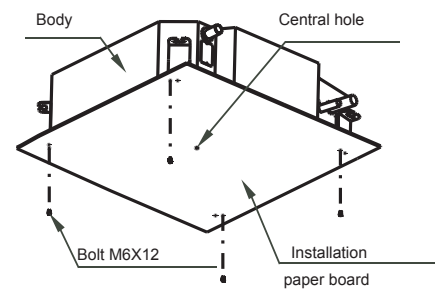

Fig.5-8
- 2 After installing the body, please fasten the installation paper board onto the air conditioner with bolts(M6X12) to determine in advance the sizes and positions of the hole opening on ceiling. (Refer to Fig.5-8)